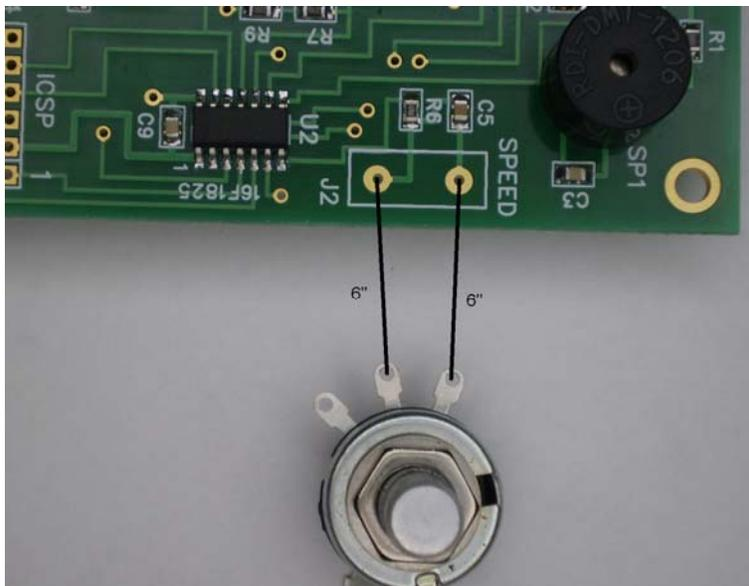

Figure 8 – Speed Pot Connections
- 9) Now wire the speed pot to the PC board as shown in figure 8. Cut two 7 inch lengths of wire and attach to J2. If you don't plan on using the speed pot short the two pads of J2 with a short piece of resistor lead.